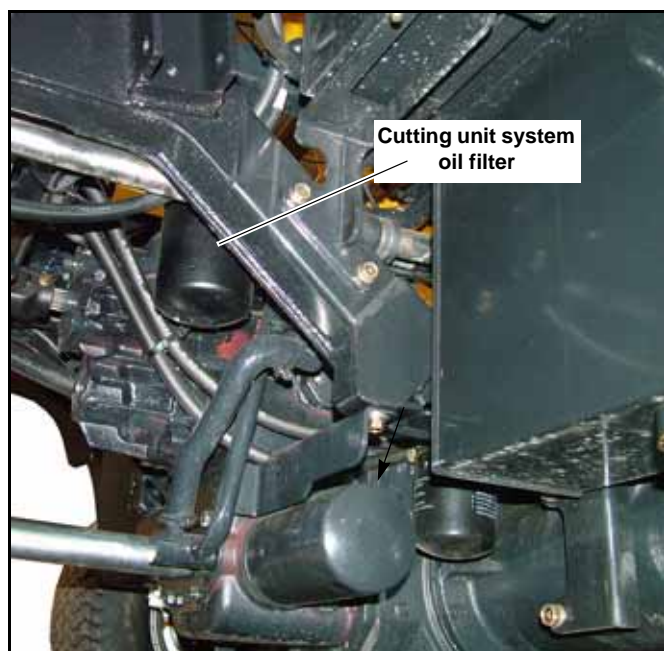

Figure 4-28
2. Unscrew the oil filter and discard. Figure 4-28
3. Coat the gasket on the new filter with a film of oil. Screw the filter into place until the gasket contacts the sealing surface, then tighten the filter approximately 3/4 of a turn by hand. Do not over tighten. Figure 4-28